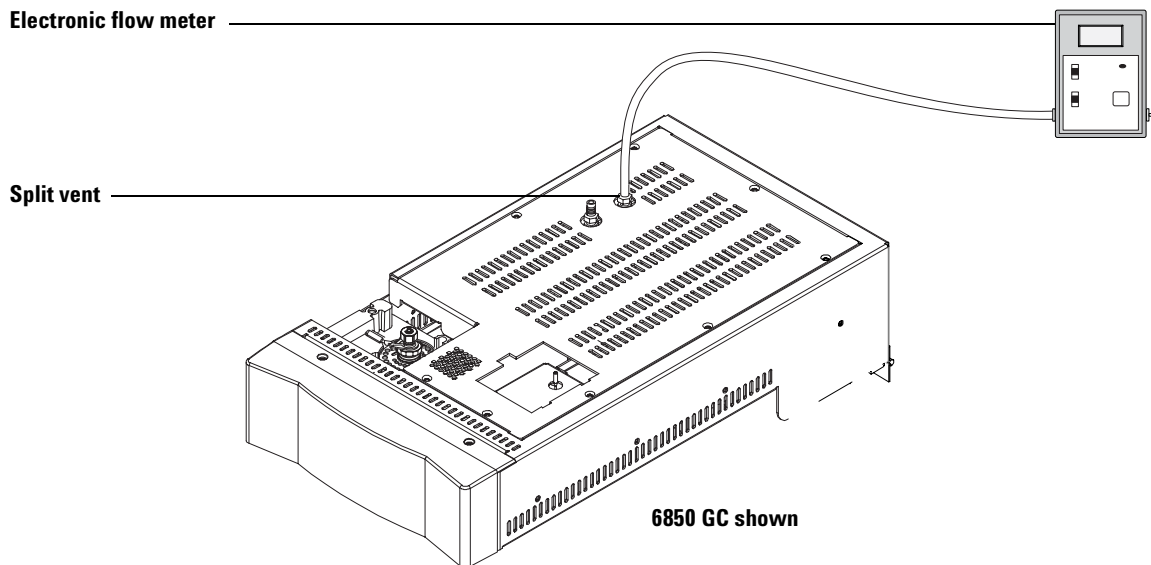

Figure 18 Measuring the split vent flow rate
- 4 Connect an electronic flow meter to the GC split vent. Turn up the headspace carrier gas flow until the flow rate out the split vent equals the flow rate desired in the column. The split ratio is 1:1. This flow rate equals the column flow rate. See Figure 18. Remove the flow meter.